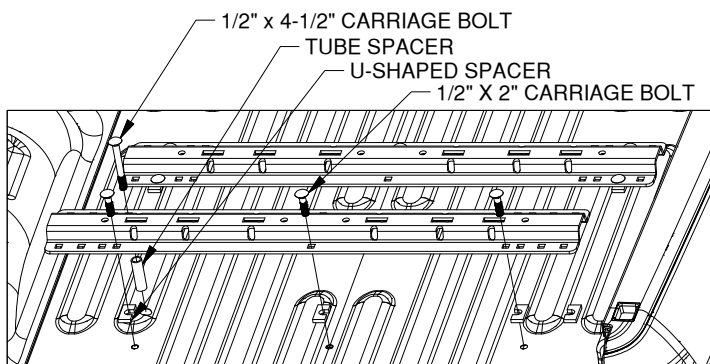

Figure D3: View looking down into the bed of the truck.
- 4. Place the rear mounting rail.** Locate one tube spacer. Place the tube spacer into the 7/8" drilled hole. Re-position the rear mounting rail over the drilled 9/16" and 7/8" holes in the bed. Install a 1/2" x 4-1/2" carriage bolt into the driver side forward drilled position (7/8" hole over the cross member). Install three 1/2" x 2" carriage bolts through the three rear drilled positions, as shown in Figure D3. Place a U-shaped spacer between the bed and the mounting rail at the three rear drilled positions and the passenger side forward position.